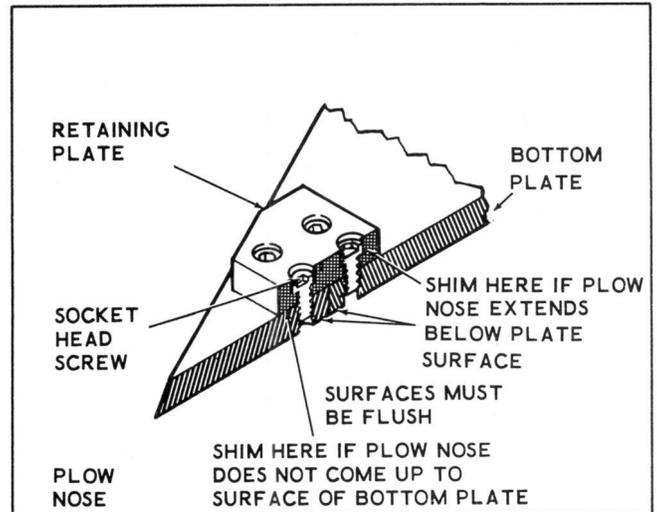

Figure 3-12. Changing Plow Nose
- a. Remove socket head screw (Figure 3-12) and remove plow nose.